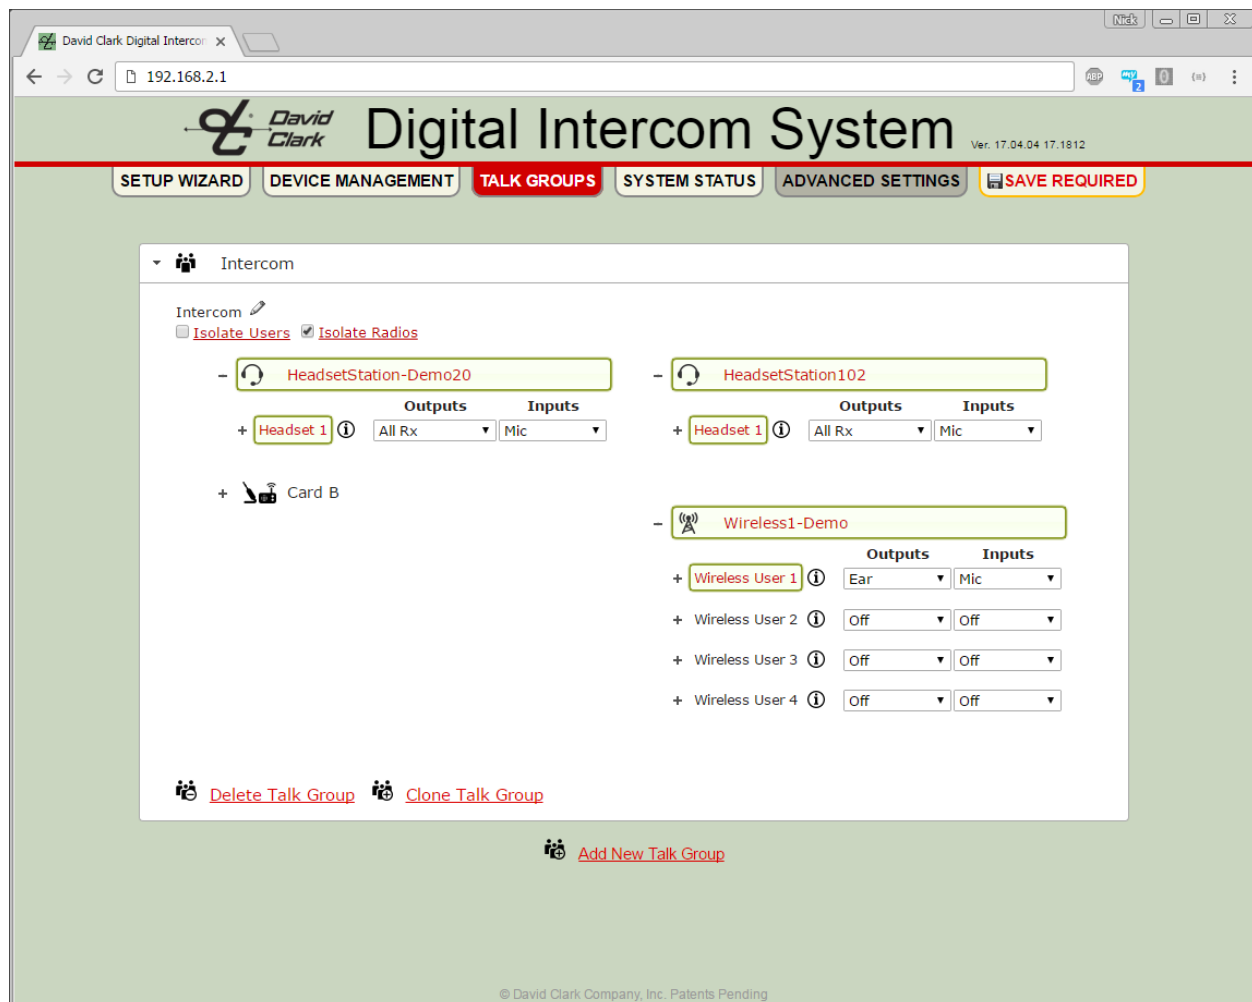

Figure 8.19 Talk Group Example 3 - Intercom
14. See **Figures 8.19 and 8.20**.